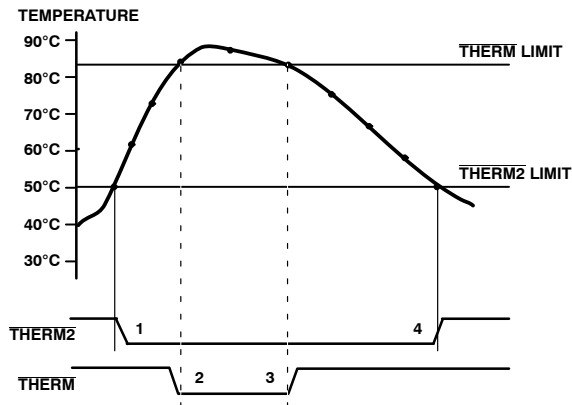

Figure 9. Operation of the $\overline{\text{THERM}}$ and $\overline{\text{THERM2}}$ Interrupts
Figure 9 shows how $\overline{\text{THERM}}$ and $\overline{\text{THERM2}}$ operate together to implement two methods of cooling the system.
- The $\overline{\text{THERM}}$ output deasserts (goes high) when the temperature falls to $\overline{\text{THERM}}$ limit minus hysteresis. In Figure 9, there is no hysteresis value shown.